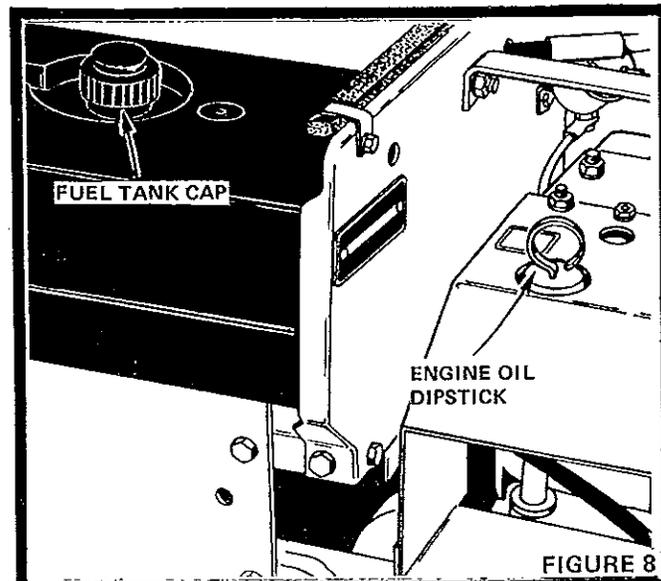

FIGURE 8
1. Check Engine Oil Level with Tractor on level ground. Wipe dipstick (Fig. 8) clean, screw it in tight for a few seconds, remove and read Oil Level. If necessary, add Oil until "FULL" mark is reached. In summer use S.A.E. 30 (SC, SD or SE) Oil. In winter (below 32°F.) use S.A.E. 10W30 (SC, SD or SE) or 10W40 (SC, SD or SE). In extreme cold (below 0°F.) use S.A.E. 5W20 (SC, SD or SE). NOTE: DO NOT OVERFILL.
2. Fill Fuel Tank (Fig. 8) with fresh regular grade lead-free or leaded gasoline. Capacity is 7 quarts. NOTE: DO NOT SWITCH FROM LEADED TO LEAD-FREE GASOLINE.